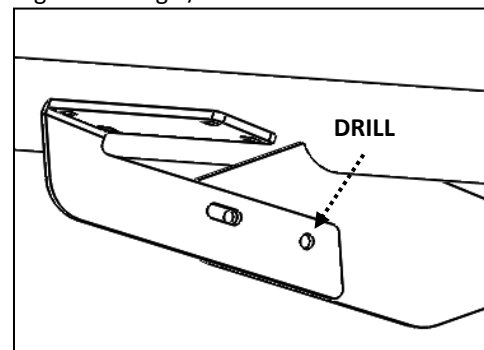

Figure 8: Drill 2nd Hole on Bracket and Bolt Together Using 1/4"-20 Hardware.
13. Once this bracket is bolted firmly into the van, you can drill the second hole into the center nerf bar blade to lock the rotation permanently on this bracket as seen in Figure 8. Use a 1/4" drill bit and bolt together using 1/4" hardware.